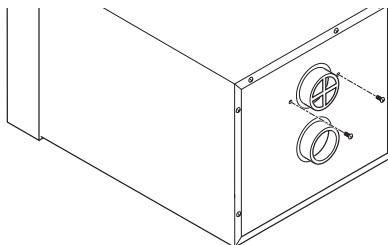

Figure 9 - Locations of Screws in Back of Furnace Cabinet (25,000 BTU/Hr Model)
1. Remove the two screws in back of furnace cabinet located by the exhaust vent(s) (see Figures 9 and 10).